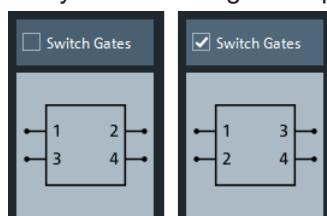

**Figure 5-9: Port Set De-/Embedding**
- In case the port number conventions of the loaded Touchstone file differ from the numbering scheme depicted in Figure 5-9, it is possible to "Switch Gates". The analyzer interchanges the port numbers when loading the file.